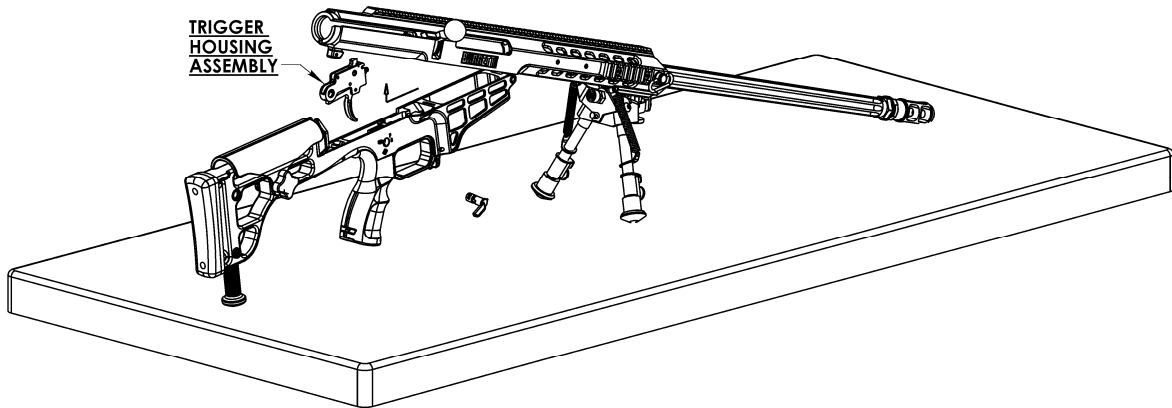

Figure 23. Removal of the trigger housing assembly.
3. Grasp the sear / trigger housing assembly and slide the trigger housing assembly rearward away from the magazine well opening and lift out of the receiver. (Figure 23.)